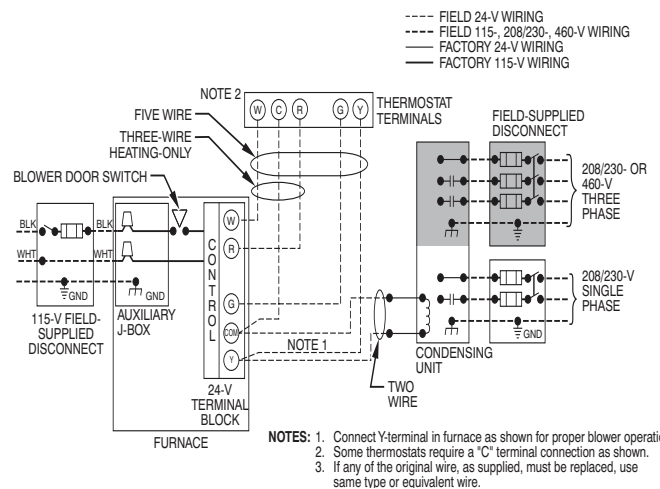
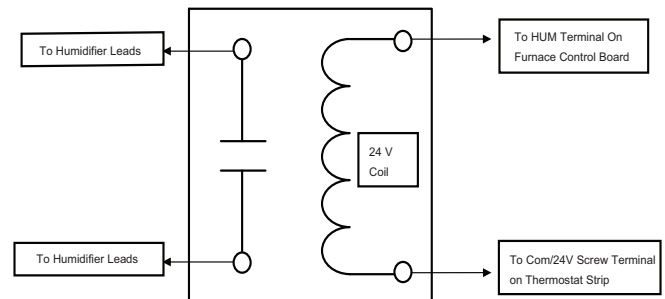
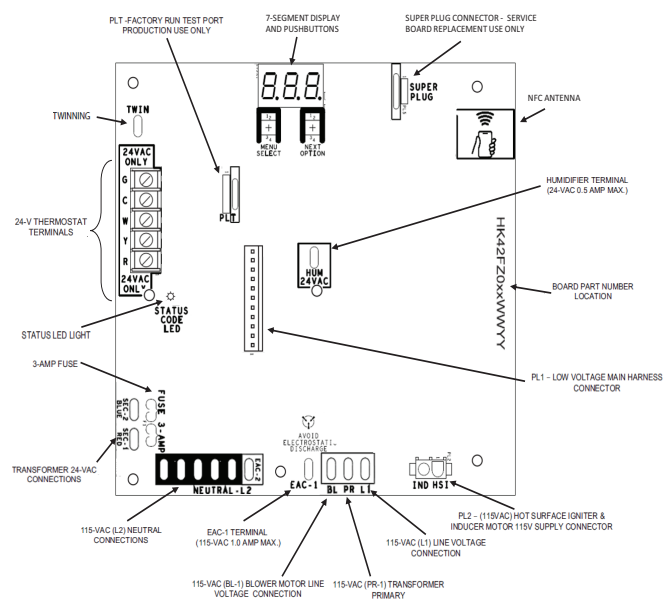

Fig. 31 – Heating and Cooling Application Single Stage Wiring Diagram ^{A190079}
Fig. 36 – Field-supplied Isolation Relay for Humidifiers with Internal Power Supply ^{A11157}
Fig. 37 – Example of Single Stage Furnace Control ^{A210192}
See Fig. 31 for field wiring diagram showing typical field 115V wiring. Check all factory and field electrical connections for tightness.
6. Connect power cord power and neutral leads to furnace power leads as shown in Fig. 31.
- Connect field power and neutral leads to furnace power leads, as shown in Fig. 31.
Make field 24-V connections at the 24-V terminal strip. See Fig. 37. Connect terminal Y/Y2 as shown in Fig. 31 for proper cooling operation. Use only AWG No. 18, color-coded, copper thermostat wire.
The 24-V circuit contains an automotive-type, 3A fuse located on the control. Any direct shorts during installation, service, or maintenance could cause this fuse to blow. If fuse replacement is required, use **ONLY** a 3A fuse of identical size. See Fig. 37.
ACCESSORIES (See Fig. 36 and Fig. 37)
Connect an accessory Electronic Air Cleaner (if used) using 1/4-in. female quick connect terminals to the two male 1/4-in. quick-connect terminals on the control board marked EAC-1 and EAC-2. The terminals are rated for 115VAC, 1.0 amps maximum and are energized during blower motor operation. See Fig. 37.
Connect an accessory 24 VAC, 0.5 amp. maximum humidifier (if used) to the 1/4-in male quick-connect HUM terminal and COM-24V screw terminal on the control board thermostat strip. The HUM terminal is energized when the pressure switch closes during a call for heat (see Fig. 37).